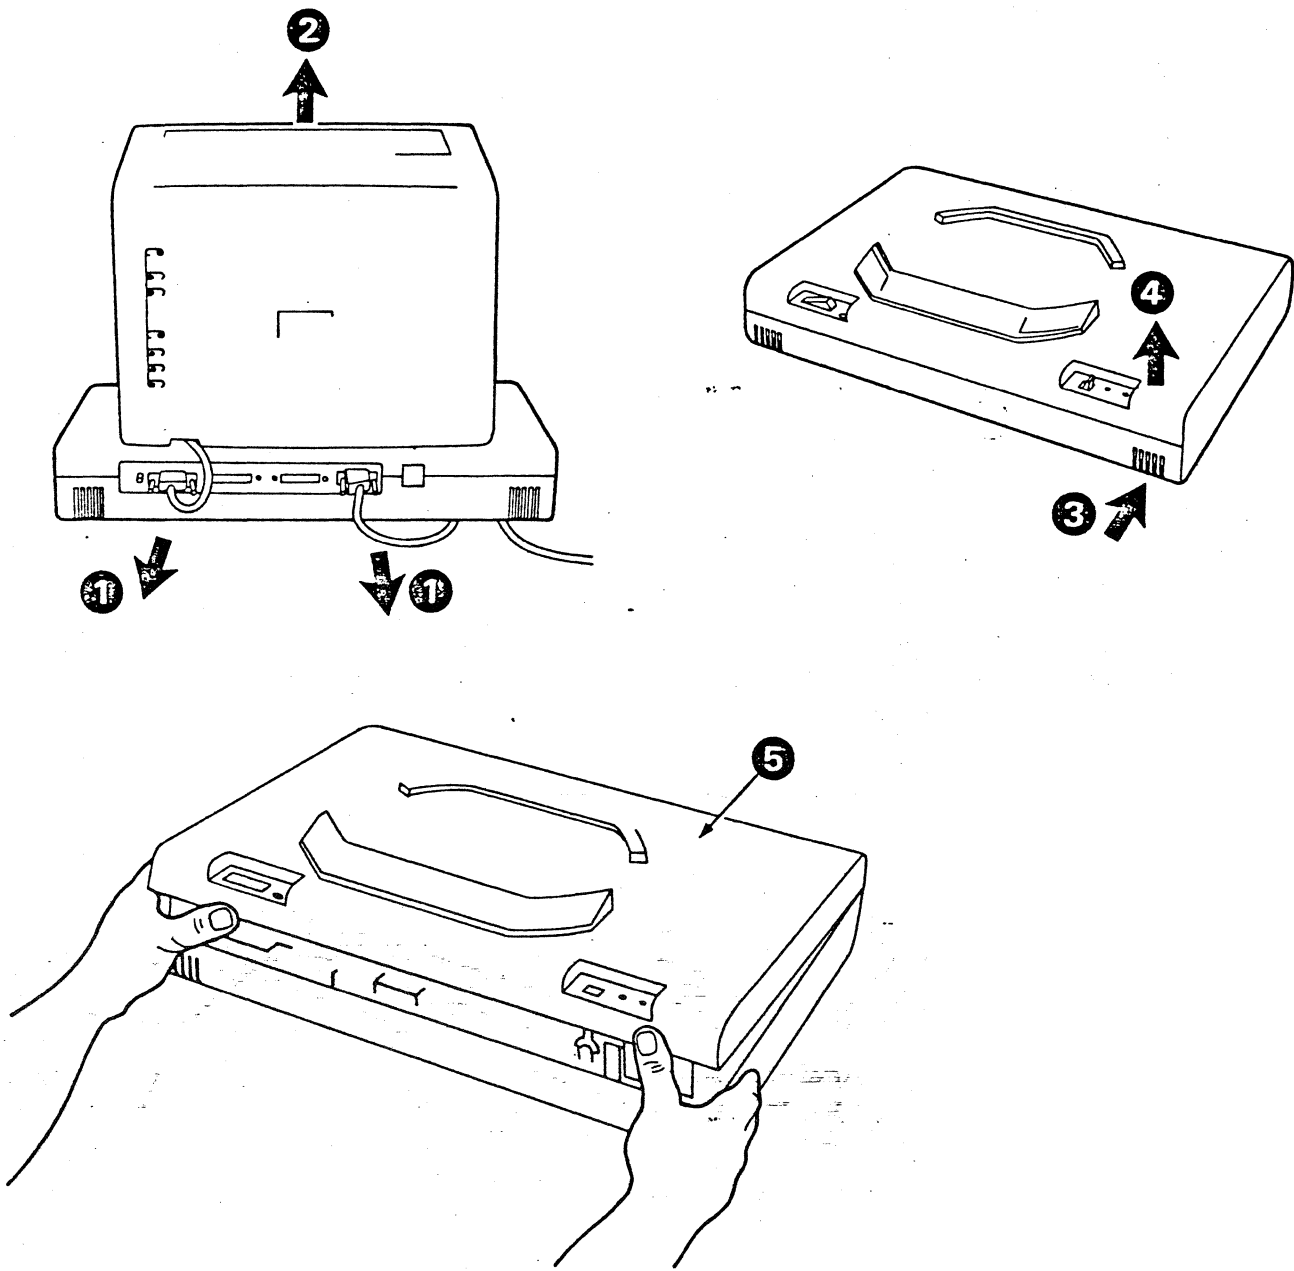

Figure 4-1. Logic element Cover
2. Remove all plugs ① connected to the Logic Element, then lift the Video Element ② from the top of the Logic Element (see Figure 4-1).
5. Through an opening in the right front ventilator, press the plastic tab ③ inward with a screwdriver and push the top cover ④ upward just far enough to unlatch the tab.
6. Repeat Step 5 at the left front ventilator, then raise the top cover ⑤ from the base.